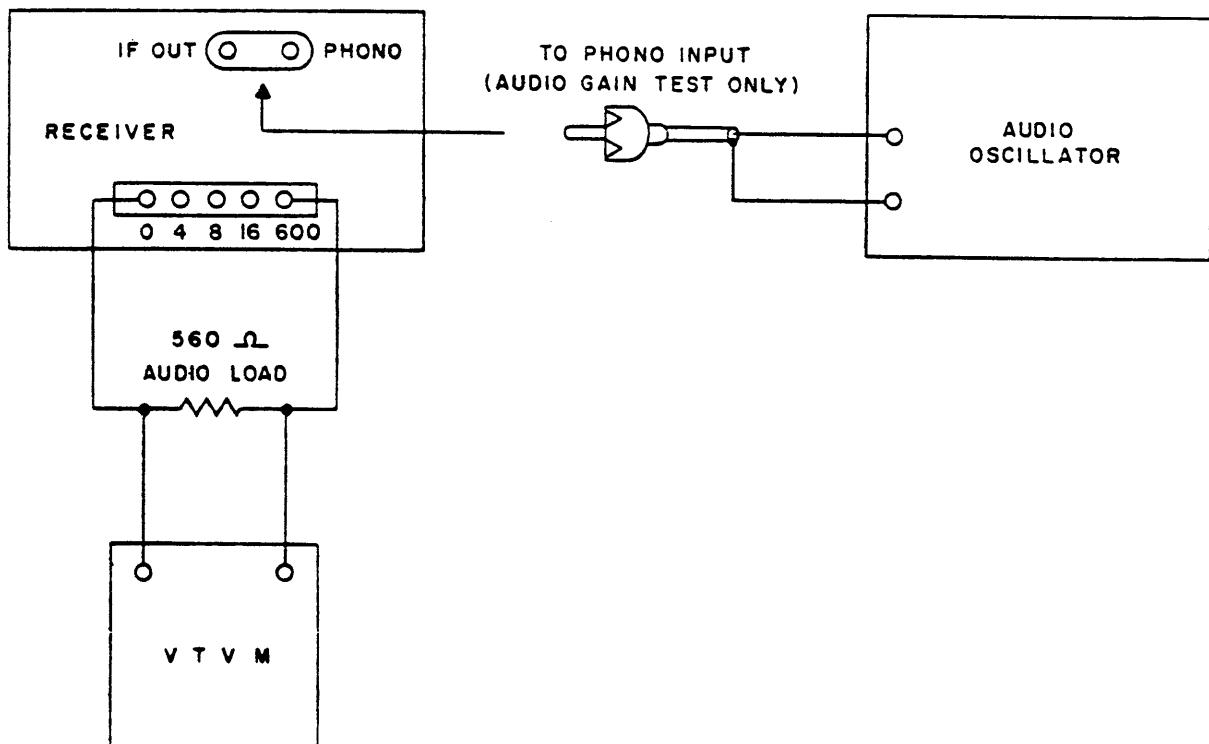

Figure 4-1. Test Equipment Connections for Audio Gain Test and I-F Alignment
a. Plug audio oscillator into PHONO jack at rear of receiver, and connect 560-ohm audio load and a-c vtvm in parallel across 600-ohm speaker terminals (Figure 4-1).
c. Connect 560-ohm audio load and a-c vtv in parallel across 600-ohm speaker terminals (Figure 4-1).